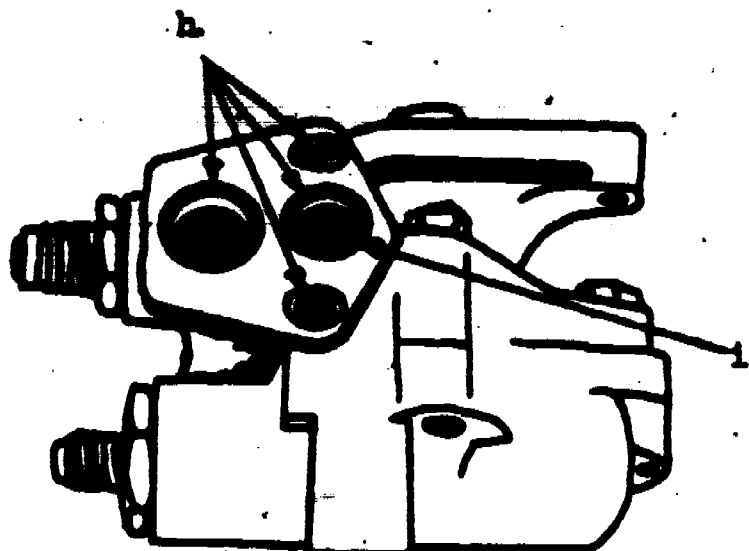

Figure 3
STEP 9. Remove and discard the four "O" ring seals between the reservoir and pump body (Item h in Figure 3).
STEP 10. Remove intake "O" ring seal retainer (Item i in Figure 3).